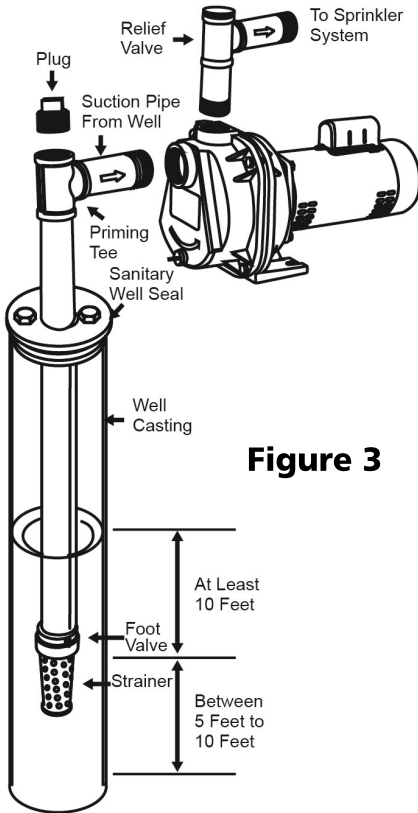

Figure 3
4. Install a priming tee with a plug on the suction pipe from the water source as shown in Figure 3. Install a union to allow the pump to be easily disassembled from the piping for easy servicing. ***Make sure Teflon tape or pipe joint compound is used on all joints. The suction pipe should be at least 1 1/4"***